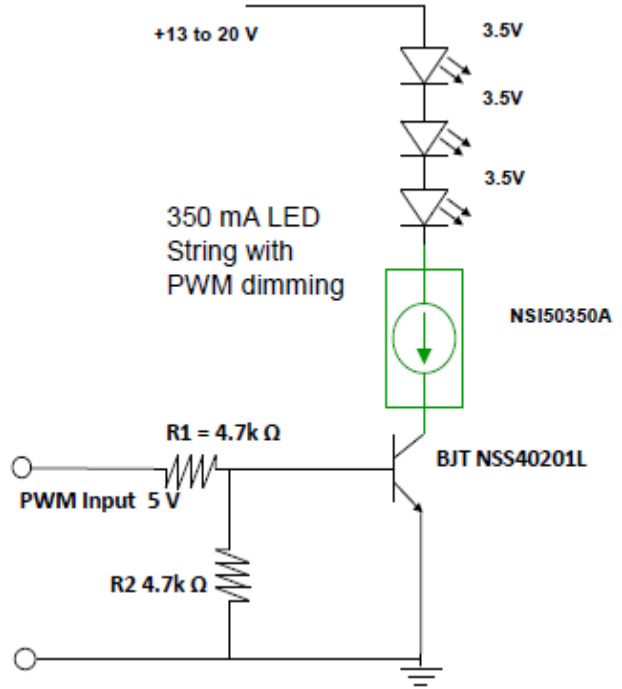

Figure 15.
For a series circuit with PWM dimming capability (Figure 15), the power dissipation of the CCRs is determined by analysis for worst case condition to account for 100% duty cycle. See Example 1. For analysis data. The method of pulsing the current through the LEDs is known as Pulse Width Modulation (PWM) and has become the preferred method of changing the light level. LEDs being a silicon device, turn on and off rapidly in response to the current through them being turned on and off. The switching time is in the order of 100 nanoseconds, this equates to a maximum frequency of 10 MHz. Applications will typically operate from a 100 Hz to 100 kHz. Below 100 Hz the human eye will detect a flicker from the light emitted from the LEDs. Between 500 Hz and 20 kHz the circuit may generate audible sound. Dimming is achieved by turning the LEDs on and off for a portion of a single cycle. This on off cycle is called the Duty cycle (D) and is expressed by the amount of time the LEDs are on (T_{on}) divided by the total time of a on/off cycle (T_s).